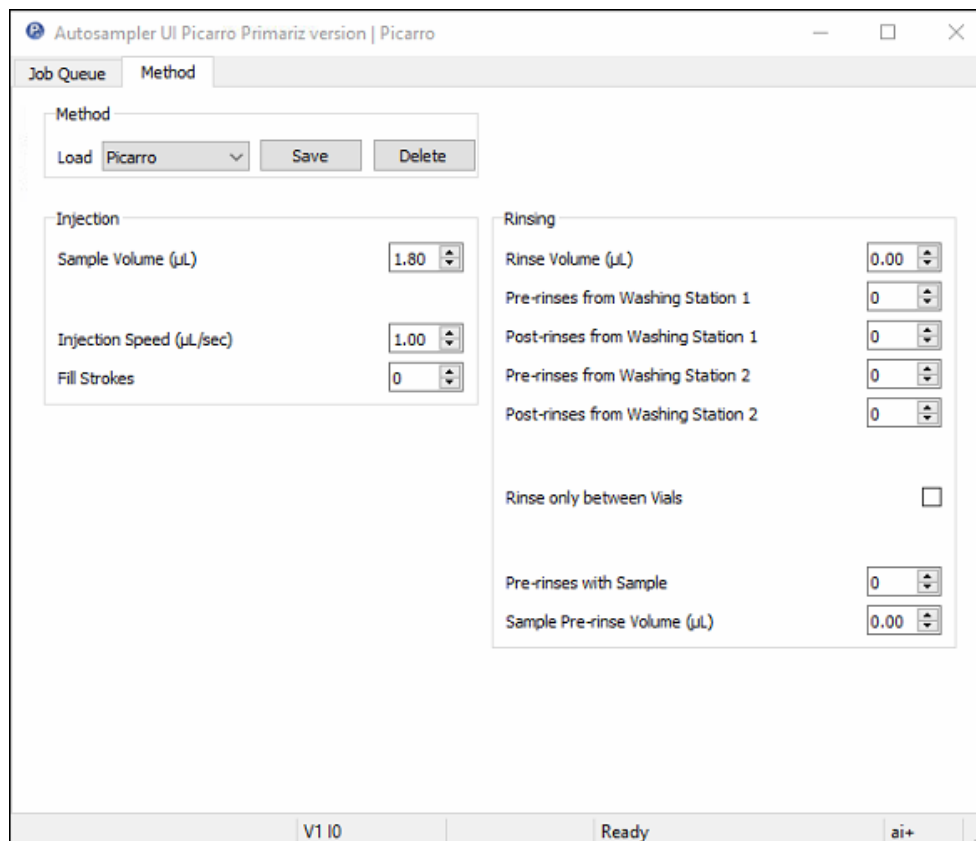

Figure 71: Autosampler Method Tab
1. Click on the **Method** tab. From this tab, characterize the desired method. See Figure 71 and description of features.